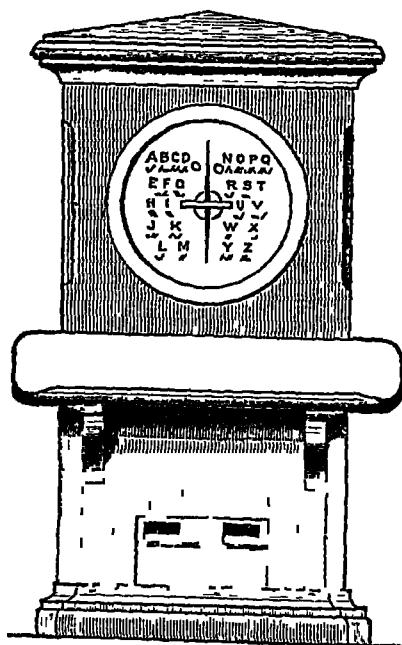

FIG 226
two metallic springs called 'tappers,' fixed at  $\mathcal{E}$  and  $\mathcal{L}$ , they ordinarily press against  $\mathcal{Z}$ .  $\mathcal{L}$  is connected with the telegraph line, that passes round the galvanoscope,  $\mathcal{E}$  is connected to earth, there being ordinarily no connection between  $\mathcal{Z}$  and  $\mathcal{C}$ , no current passes. If now the spring  $\mathcal{L}$  be depressed, so as to make connection with  $\mathcal{C}$ , the current flows from  $\mathcal{C}$ , through  $\mathcal{L}$ , and then to the galvanoscope, whose needle swings in one direction. If, on the contrary,  $\mathcal{E}$  be depressed, the current flows by  $\mathcal{E}$  to earth, to the galvanoscope, and back through the line to  $\mathcal{L}$ , the needle then swings in the opposite direction. By noting the combination of right and left swings, the operator reads the message. (See alphabet fig. 226.)
**The Single Needle Instrument**—A front view of the instrument is given, the tappers are seen in elevation (fig. 226). The steel indicator on the dial is parallel to, and moves upon the same axis as the magnet of the galvanometer, situated behind the dial.